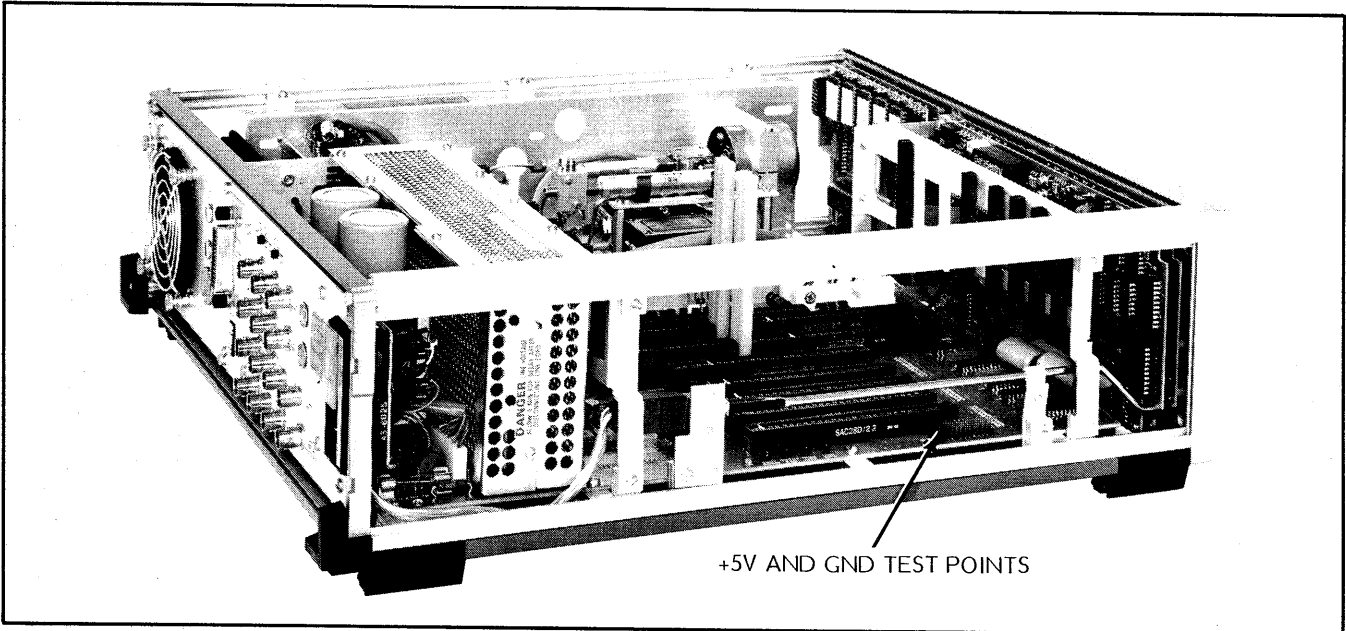

Figure 5-3. Connector P3, Pins 13 and 26
4. Clip a 1/2W fixed resistor, 50 to 100Ω, between the +5V and GND test points (Figure 5-3).